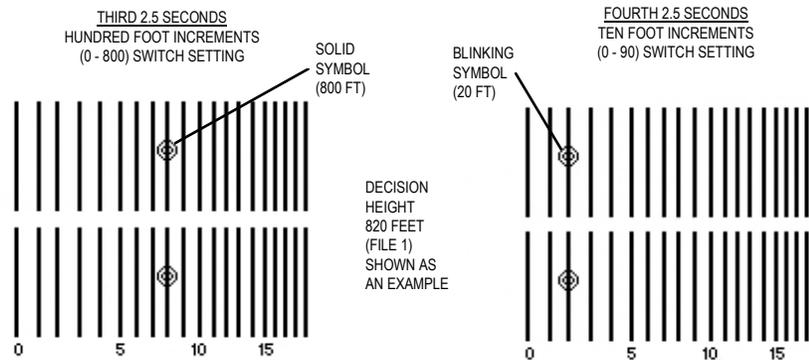

Figure 2-1. Decision Height Verification in Azimuth.
(1) Verification of the new setting will be displayed.
(2) The first 5 seconds will verify the glide slope and then the decision height altitude will be verified. The new decision height setting is verified in the same manner as the glide slope. The hundreds digit, 0-800, will be a steady signal for 2.5 seconds. The tens portion, 0-90, will be represented as a blinking signal lasting 2.5 seconds (see Table 2-2). This will verify that the decision height information has been properly set into the system.
d. To verify the decision height, repeat steps (2) and (3) of SETTING THE DECISION HEIGHT MARKER. Figure 2-1 shows an example of decision height verification; you must observe that the symbols are on the range marks which correspond with the numbers of the desired decision height.